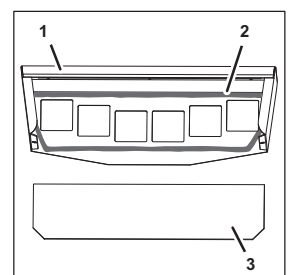

Fig. 31
- Remove any adhesive residue from the hood (Fig. 31/1).
- Apply fresh double-sided tape along the adhesive area (Fig. 31/2) inside the hood (Fig. 31/1).
- Position the new Plexiglas sheet (Fig. 31/3) in the hood (Fig. 31/1).
- Press the Plexiglas sheet (Fig. 31/2) into the hood (Fig. 31/2).